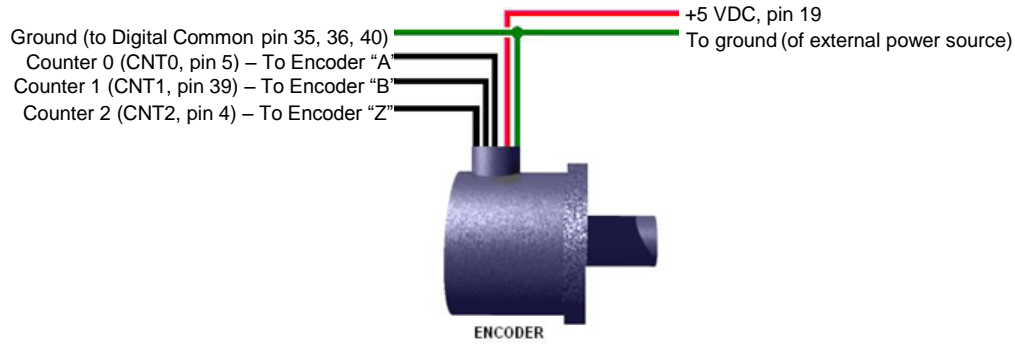

Figure 20. Encoder connections to pins on the SCSI connector\*
**Wiring to one encoder:** Figure 20 shows the connections for one encoder to a module.